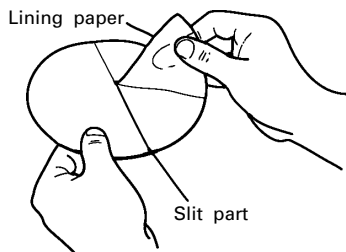

Fig. 1
- (1) As shown in **Fig. 1**, peel off the lining paper beginning at the slit part. Ensure that the adhesive on the back of the sanding paper does not become fouled with dust or other foreign matter.